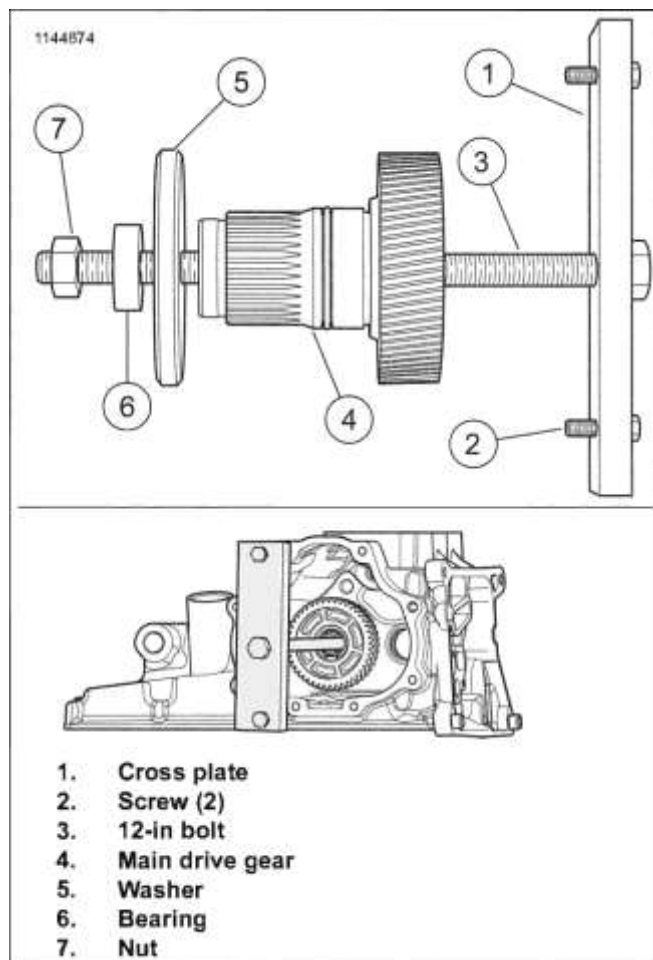

Figure 5-62. Removing Main Drive Gear
1. See Figure 5-62. Remove main drive gear.